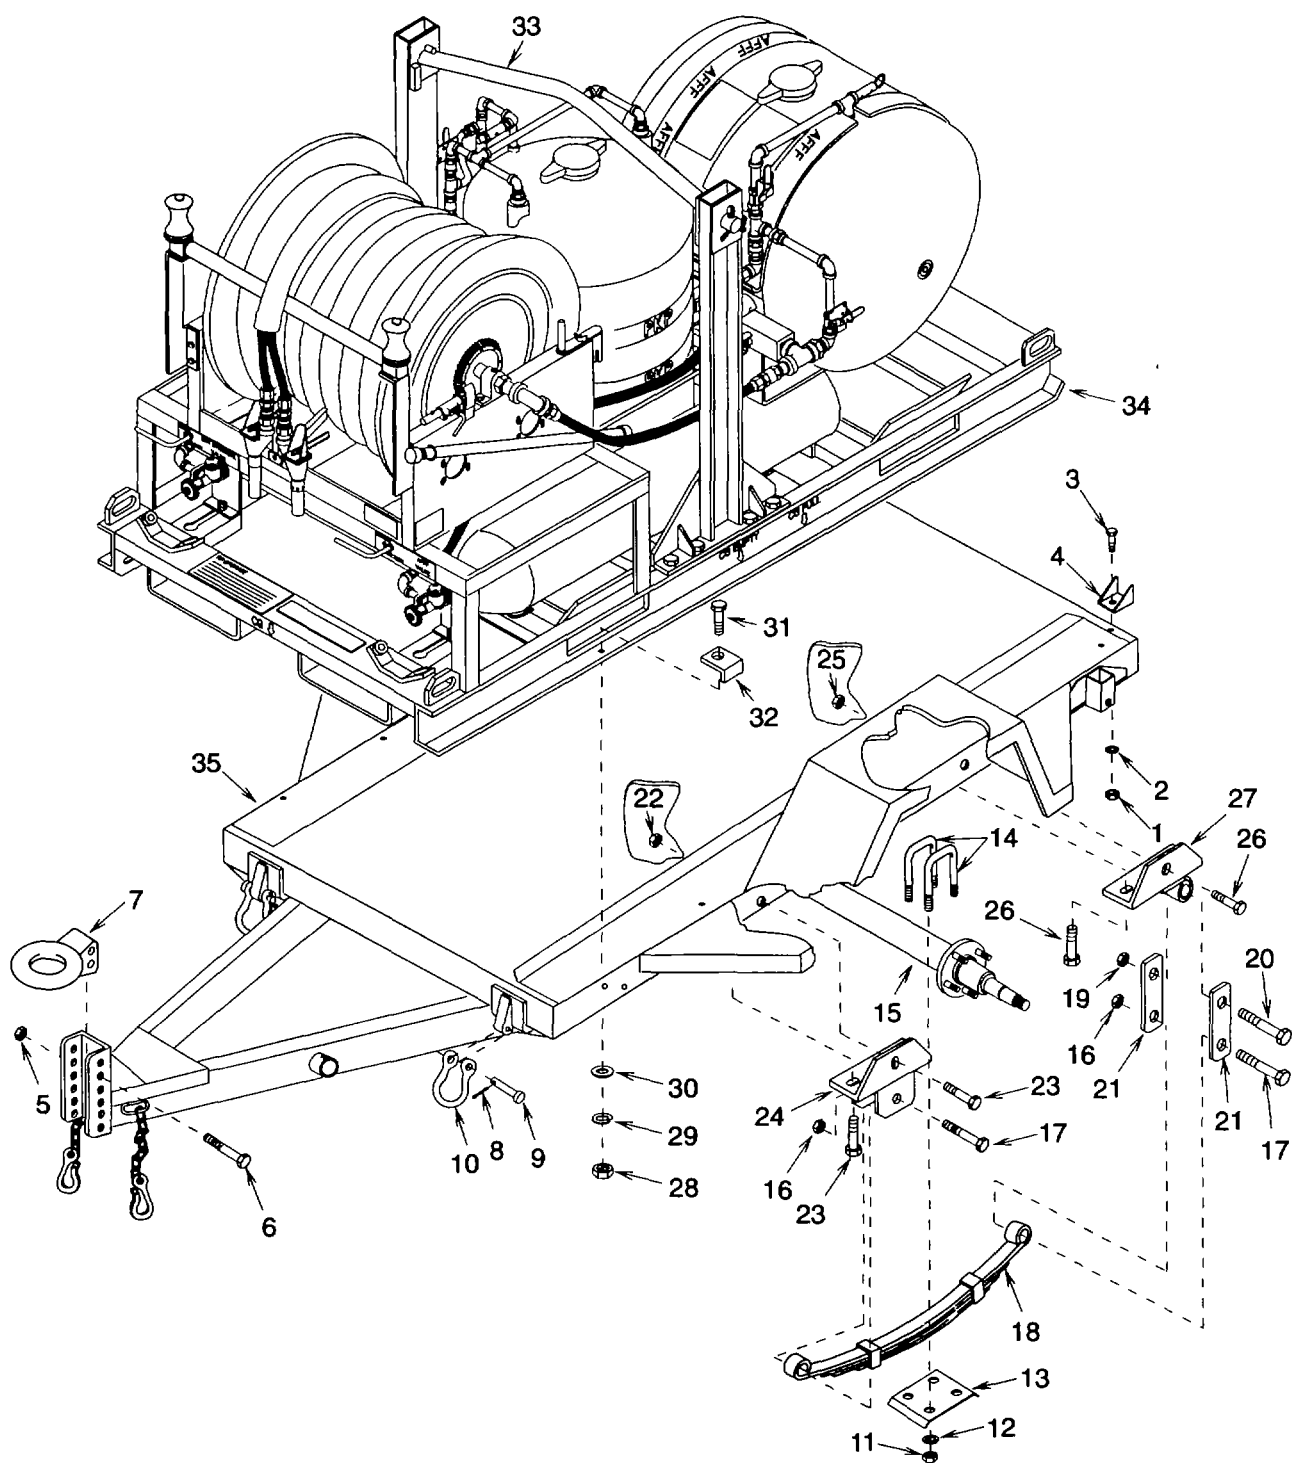

Figure 4-33. Trailer
- a. Disassembly (See figure 4-33.)
- (1) Stop block removal.
- (b) Attach lifting device to lifting bar (33) and remove skid assembly (34) from frame (35).
- (c) Using jack and four jack stands, raise and secure frame (35).
- (d) Remove six lock nuts (22) and screws (23). Discard lock nuts.
- (e) Remove six lock nuts (25) and screws (26). Discard lock nuts.
- (f) Remove two stop blocks (4), one pintle (7), and four tie down eyes (10) per steps (1) through (3) above.
- (i) Remove frame (35).
b. Repair (See figure 4-33.)
- (1) Repair is limited to replacement of defective or damaged components only.
- (2) Send frame (35) to Direct Support Maintenance for repair.
c. Assembly (See figure 4-33.)
(1) Stop block installation.